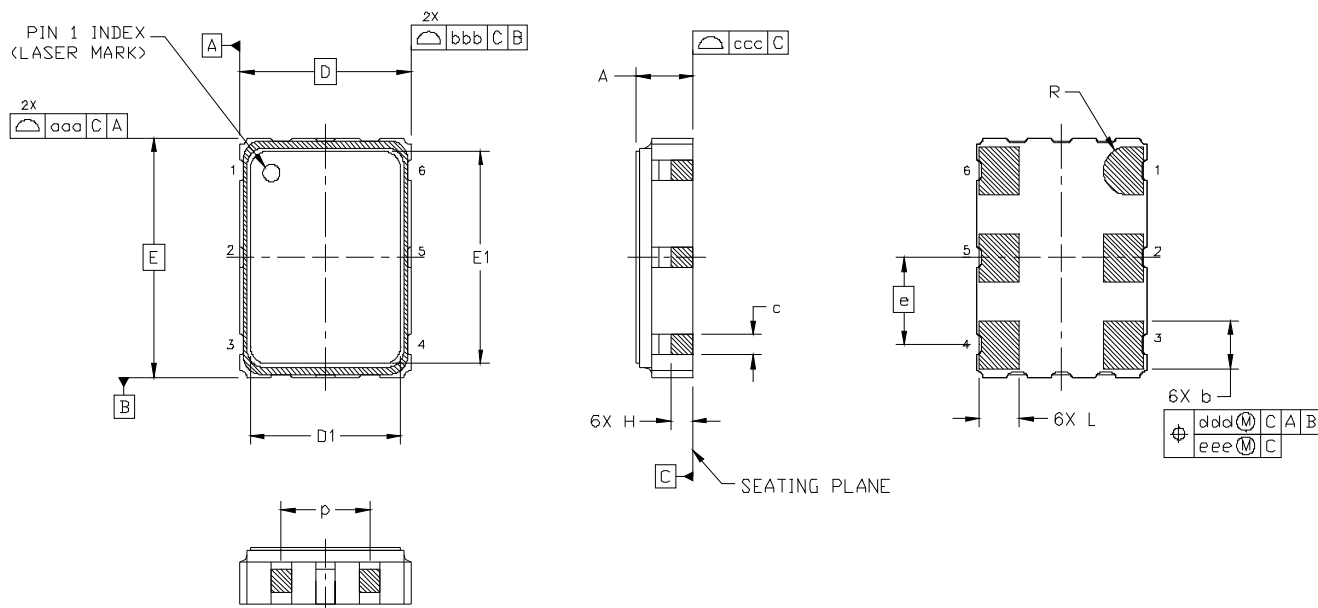

Figure 2. Si552 Outline Diagram
Figure 2 illustrates the package details for the Si552. Table 12 lists the values for the dimensions shown in the illustration.
- Added crystal impedance pin in Figure 2 on page 11 and Table 12 on page 11.